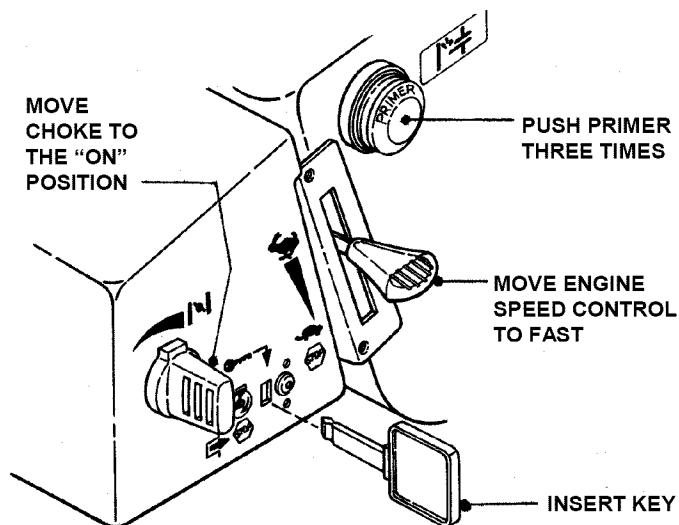

FIGURE 2.4
2. Insert key into ignition switch. See Figure 2.4.
3. Move choke control to the choke, "ON" position. See Figure 2.4.
4. Move engine speed control to the "FAST" position. See Figure 2.4.
5. Push primer button three times to start a cold engine. **NOTE:** Do not use primer button to start warm engine. See Figure 2.4.